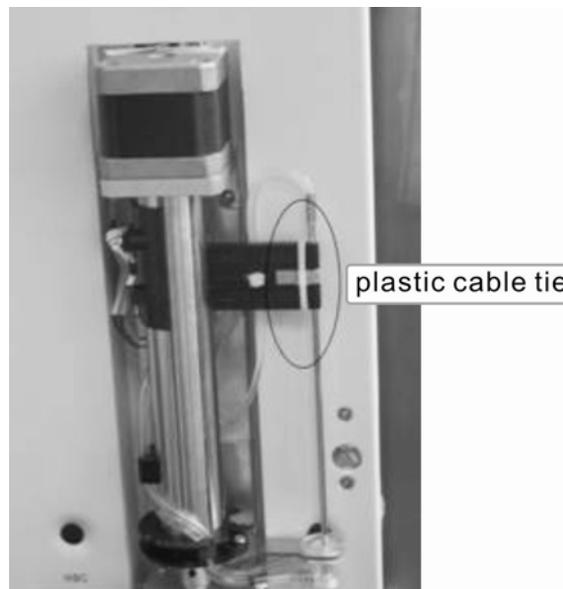

Figure 4-3
3. Cut the plastic cable tie to release the probe, as Figure 4-3 shows;